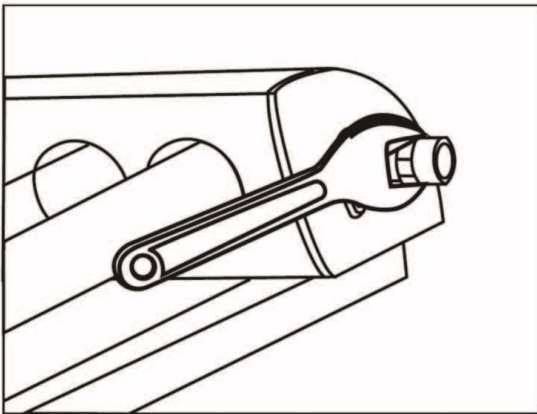

FIG. 3.8.7
- a) The temperature sensor port on the solar collector is located beside the inlet and outlet ports. The temperature should be sensed at the outlet of the manifold, which is the higher of the two ports. Fig 3.8.7
- b) Hold the header inlet/ outlet with a wrench before connecting the connectors. See Fig. 3.8.7